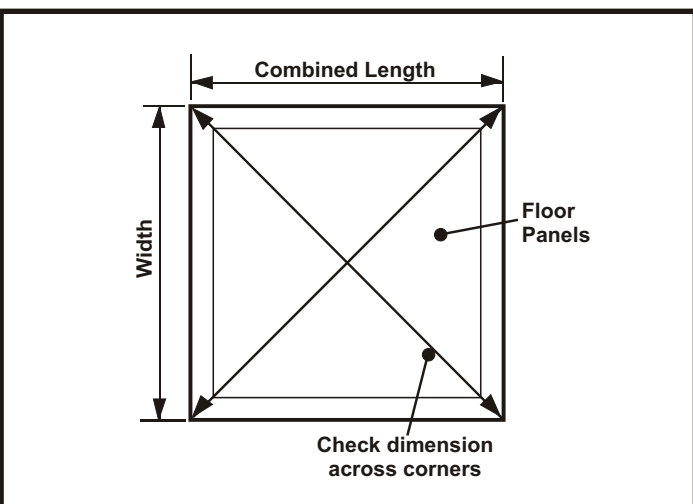

Fig. 10
- C. Mark the outside perimeter of the walk-in on the building floor. Check the area for squareness by measuring across the corners. See Fig. 10. Find the high point of this area, using a 48" spirit level. The entire walk-in floor must be level from this point. On walk-ins larger than 10' x 10', a transit or builders level should be used.